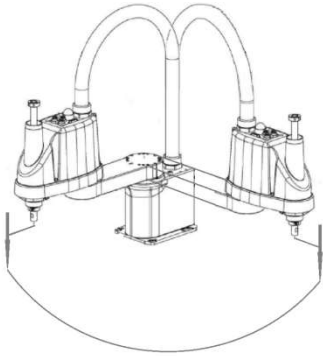

Figure 1
- ① After adding tools, drawing arcs on the XY plane does not enable rotary cutting, and the actual C-axis does not rotate. The running effect is shown in Figure 1.